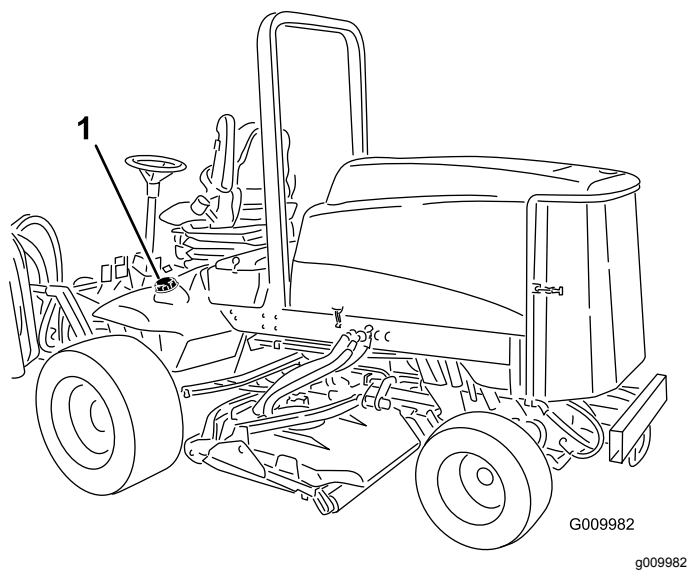

Figure 14
1. Remove the fuel tank cap (Figure 14).